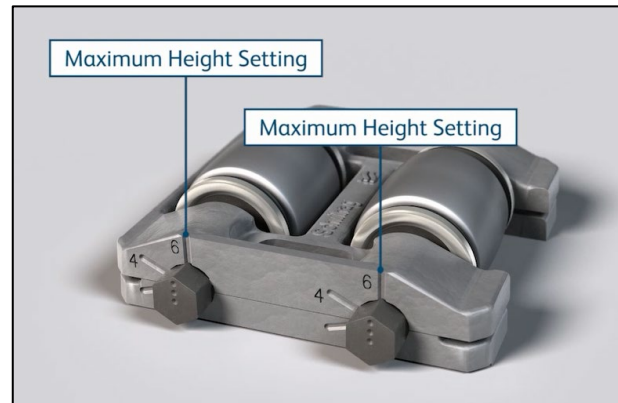

Figure 6 – Height setting
2.7 Check the roller height settings (see figure 6). If they are approaching their maximum height setting, this should be reported to your supervisor as corrective maintenance such as lifting and packing might be required.